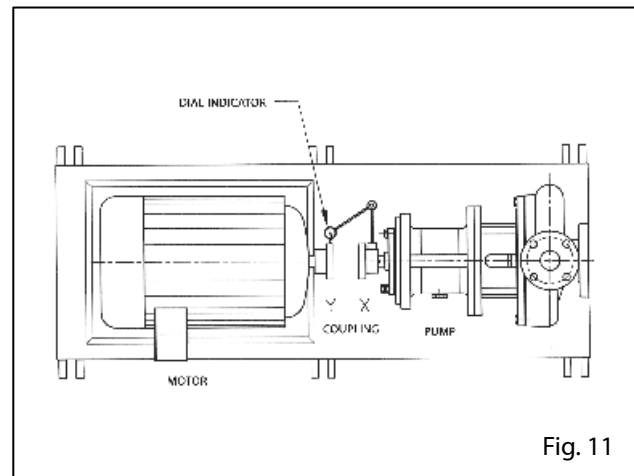

Fig. 11
- Y Horizontal Alignment: Consist of installing a dial indicator (see Figure 11) in the top half of the coupling "X", leaving it fixed, and then proceeds to inspect the four cardinal points of the "Y" coupling. If readings exceed 0.002" (0.05 mm), means that the motor is offset from the top down, so install or remove equal amounts of shims at the motor feet, to correct the readings.